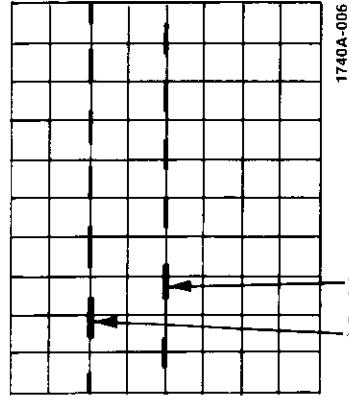

Figure 6a. Normal Display With
3. Set SWEEP AFTER DELAY to AUTO and turn the DELAY **41** control clockwise until the intensified portion of the trace is over the trace area you wish to investigate. This is demonstrated in figure 6a.